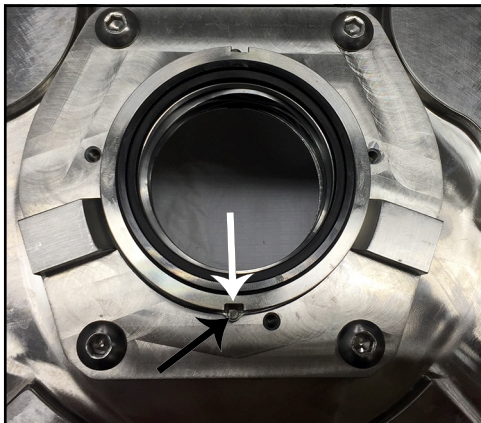

Figure 173 - Flush-side stationary seal installed
17. Figure 173 shows the flush-side stationary seal installed. Note the notches (white arrow) lined up with the seal housing pins (black arrow).